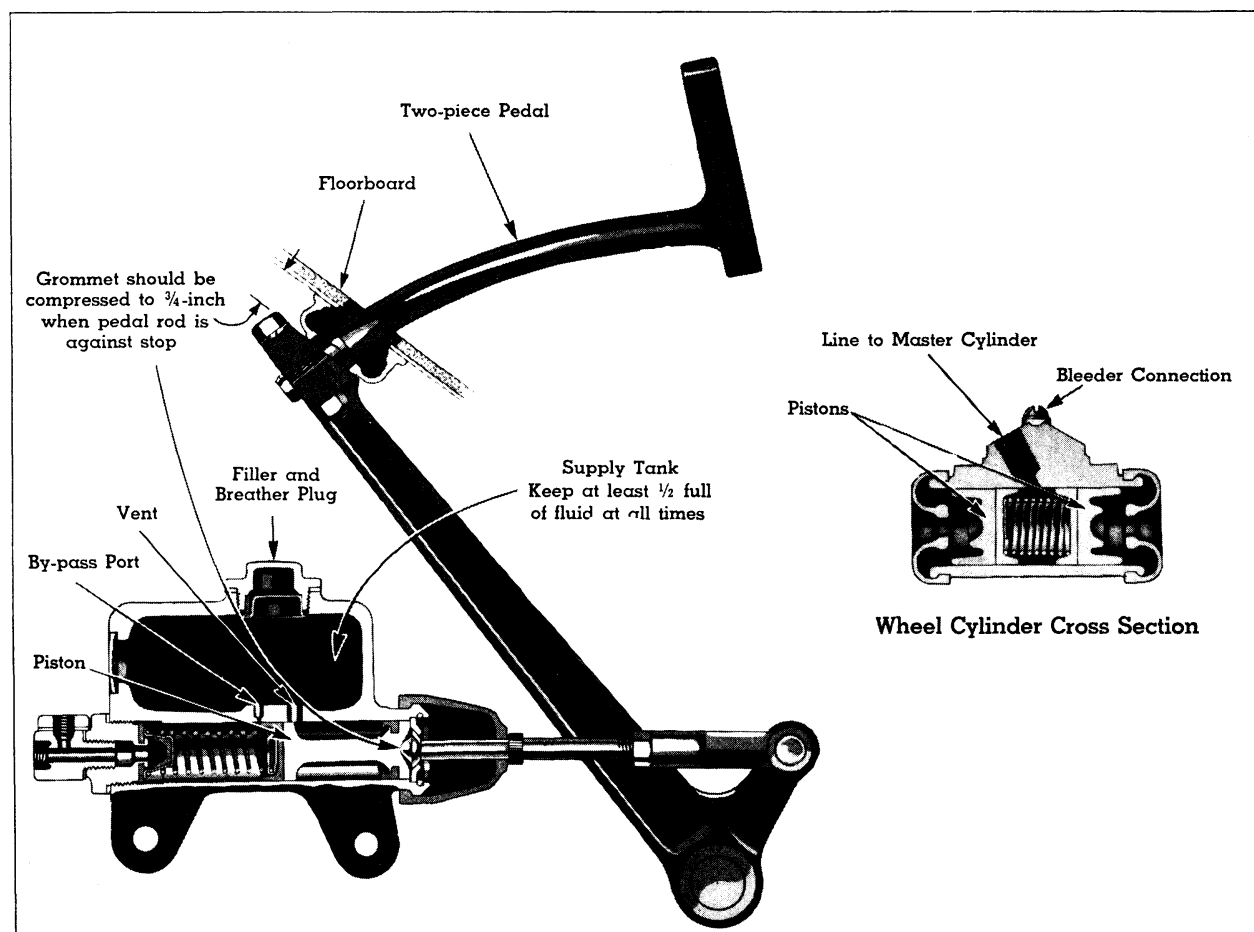

Fig. 18. Brake Master Cylinder and Pedal
3. Adjust pedal operating rod by loosening lock nut and turning connecting link in or out until grommet under floorboards is compressed to $\frac{3}{4}$ inch when operating rod is against stop in master cylinder. (See Figure 18.)